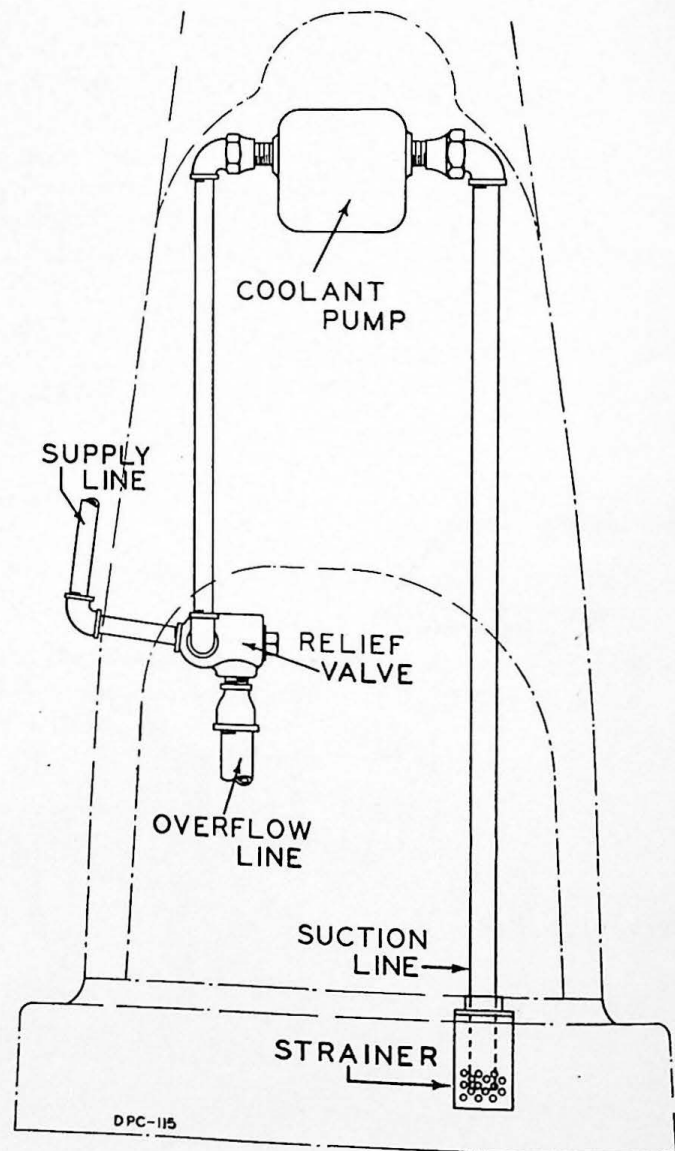

FIGURE 22
2. Disconnect two unions, one on either side of pump. See Figure 22.
NOTE: When re-assembling pump to pulley bracket, clean both surfaces thoroughly and re-seal with G. E. 880 or its equivalent to prevent coolant water leakage and to prevent air being sucked into pump system. In regular operation, it is well to clean strainer on suction line of pump once a week. This will prevent air being taken into system and causing coolant to spurt intermittently from supply pipe, and also to prevent coolant water from foaming. See Figure 22. If through evaporation of water, or any other reason the oil content of the water is excessive, coolant will foam. The addition of kerosene will usually correct this condition.